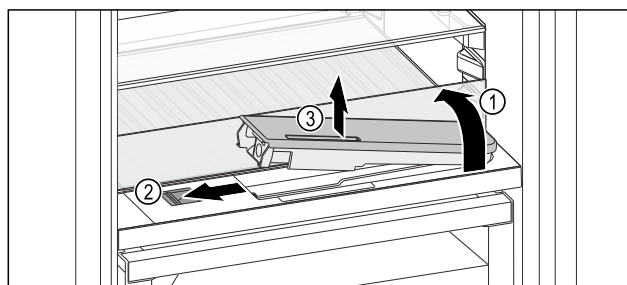

Fig. 122
- ▶ Lift the glass panel and fold towards the rear until it clicks into place Fig. 122 (1).
- ▶ Slide the slider Fig. 122 (2) to the left.
- ▶ Remove the water tank Fig. 122 (3).